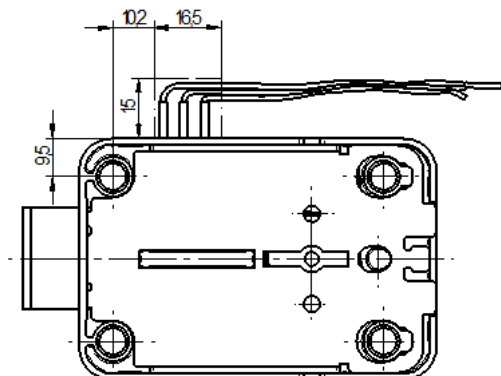

Fig 5: Keep clear area for cables
- In case of using the bolt switch (Option code RSK) it is important to keep the area clear shown in fig.5 to prevent the damage of the cables and the switch. The cables must not be buckled in the area of the heat shrink tubing. The cables have to be installed that they can not be damaged by moving parts (e.g. from boltwork) or sharp edges